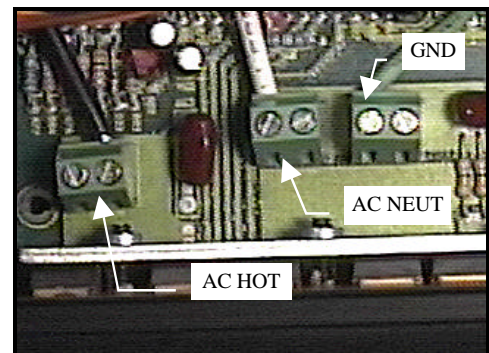

Figure 9A. AC Output Terminal Block
- d) Connect the ground lead of your AC cable to the internal ground lug on the rear panel of the PROwatt 1500. Strip the hot and neutral leads of your AC cable 1/4 inch (6mm) and connect to the AC output terminal blocks on the PROwatt 1500 circuit board (labeled " AC NEUT" and "AC HOT", in Figure 9A). Check carefully that you have maintained correct polarity (see below) and that there are no loose strands of wire. Make certain that the ground lead, which may be a bare wire, is cut as short as possible and is not touching any component within the PROwatt.
The AC output of the PROwatt 1500 has hot, neutral, and ground conductors. Figure 9A shows the internal terminals for the hot, neutral, and ground conductors. When connecting to the AC wiring, connect the hot (black) wire to the hot terminal and the neutral (white) to the neutral terminal. Connect the ground wire to the internal ground lug in the PROwatt. Connect the other end of the ground wire to a grounding point on a junction box or breaker panel.